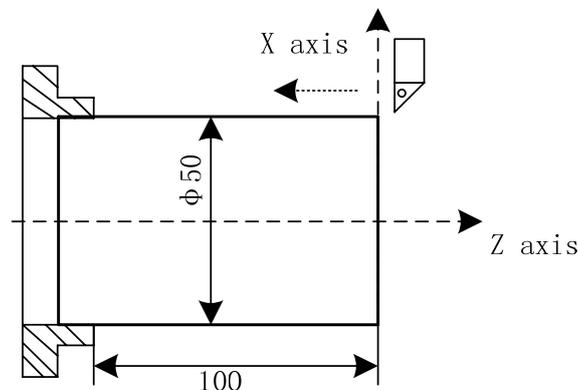

Fig.10-3
- (4) The tool traverses and cuts along the outer circle of the work piece as shown in Fig.10-3;